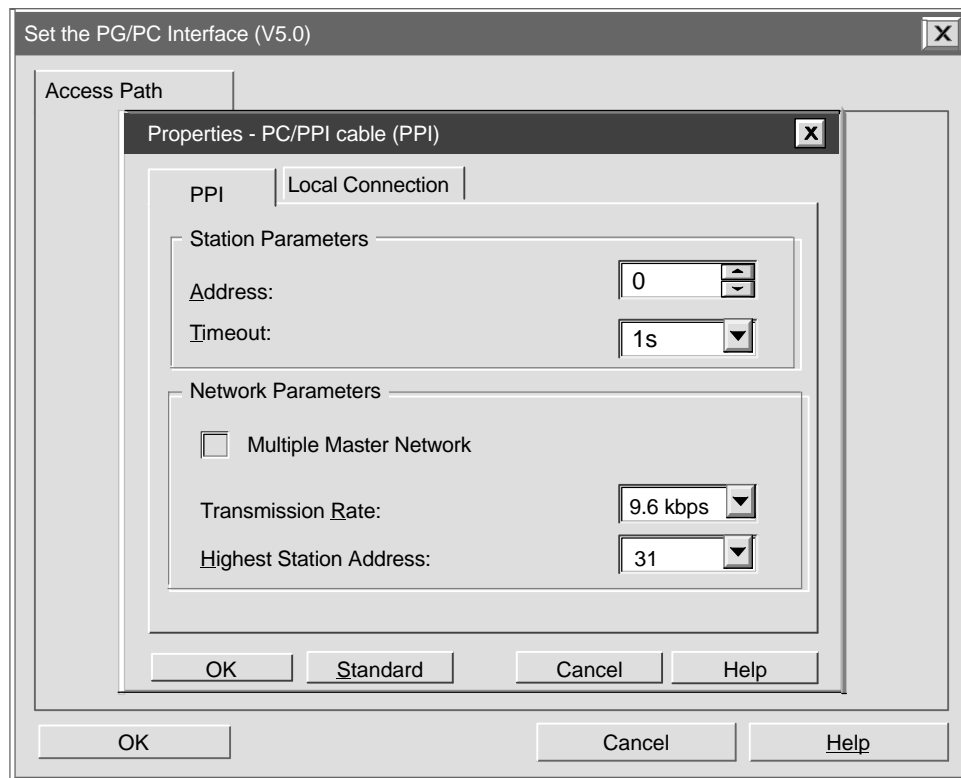

Figure 3-3 Properties Dialog Box for the PG/PC Interface
3. Select the "Properties" button. The Properties dialog box for the interface appears (see Figure 3-3). Check the properties to ensure that they are correct. The default transmission rate is 9,600 baud (9.6 kbps).